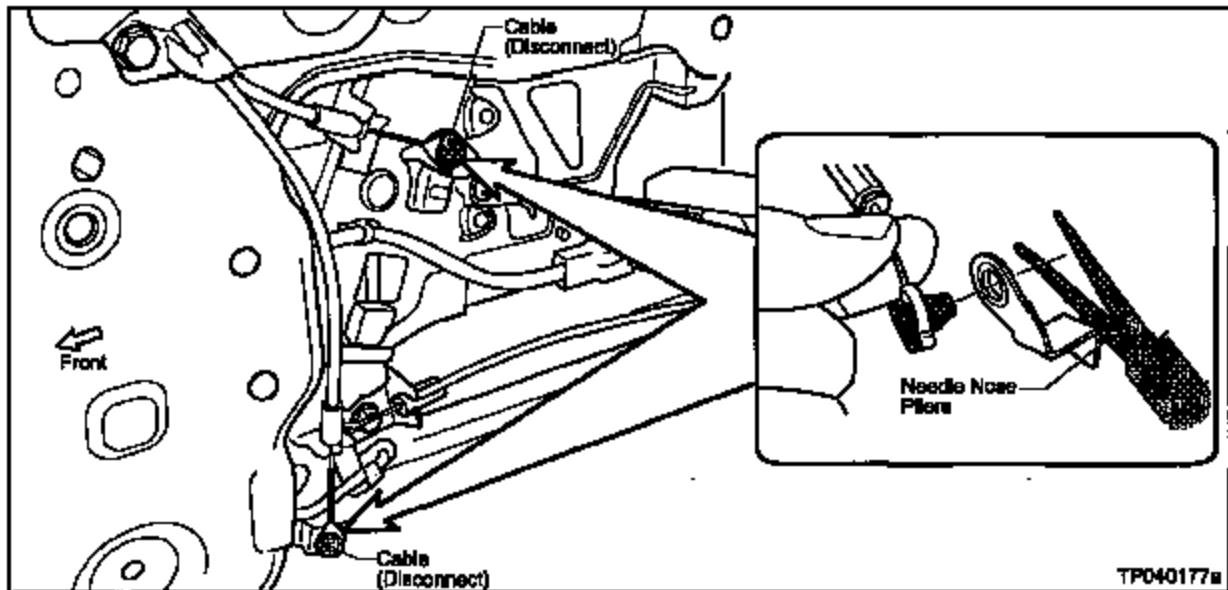

Figure 11
- c. Disconnect the two Cables (shown in Figure 11) from the Latch Assembly.
- Use a pair of Needle-Nose Pliers to release the Cables from the levers (see Figure 11).